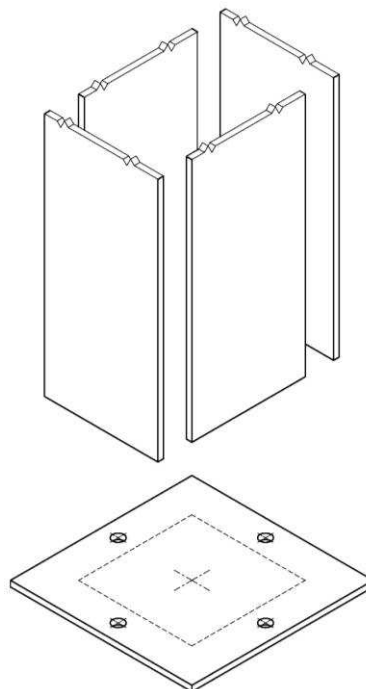
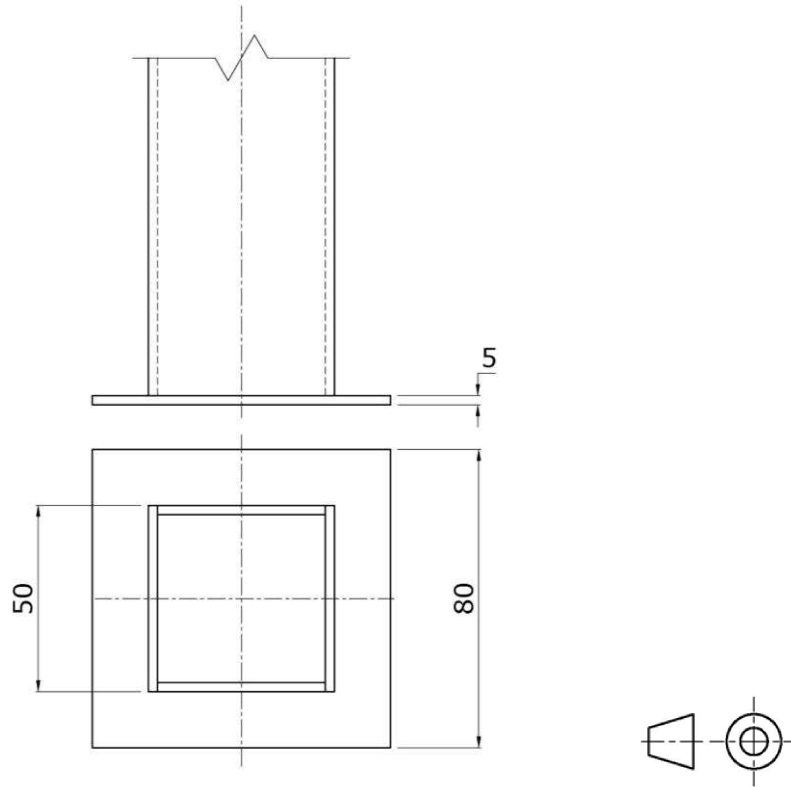

Figure 3a
Figure 3b
b) Draw isometric views of **FOUR** weld joints used in most weldments. Name the basic welding joints. (7)
c) Four mild steel plates are to be joined together and arranged to form a column. The weld joint is to be ground flush with the surface and is later welded to a square base. Figure 3a shows a pictorial view of the column base detail. Copy the plan shown in the orthographic views shown in Figure 3b and attach on the plan the proper welding symbol for the joint: